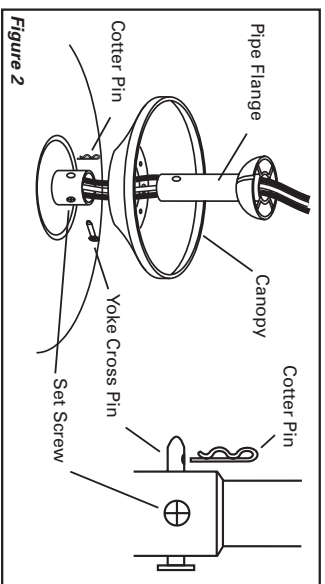

Figure 2
- Install motor leads through the canopy then through the hole in the center of the pipe flange. Insert downrod into downrod yoke. Make sure to align hole in downrod with hole in downrod yoke. Lift canopy and install yoke cross pin through yoke and downrod. Insert cotter pin into cross pin until it snaps into place. Using a Phillips head screwdriver firmly tighten set screws in yoke. (Figure 2)
- Electrical Supply:** Connect the fan motor white wire to the supply white (Neutral) wire using a listed wire nut. Connect the fan motor black wire and blue wire to the supply black (hot) wire using a listed wire nut. Your fan is now wired to be turned on and off from the fan (pull chain) switch. (Figure 2) With wire nuts turned upward, place green and white connections to one side of box and blue and black connections towards the other side and push carefully up into outlet box.